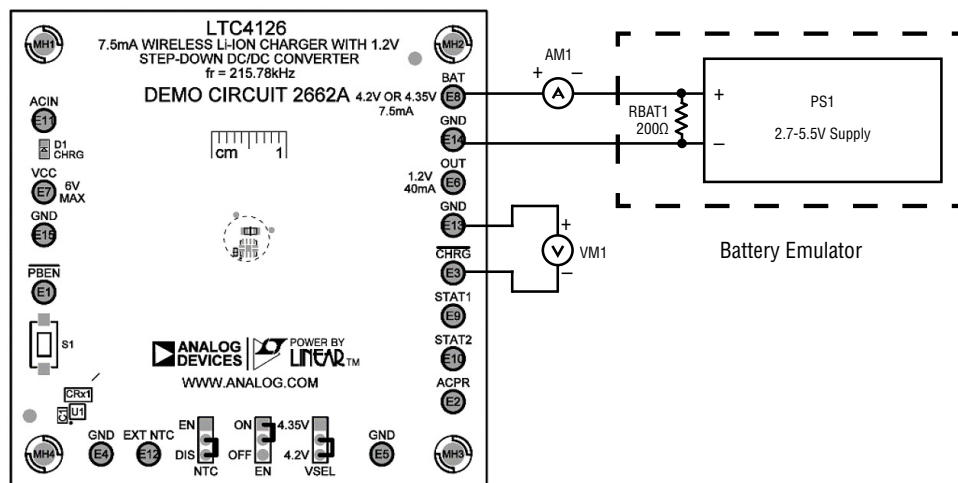
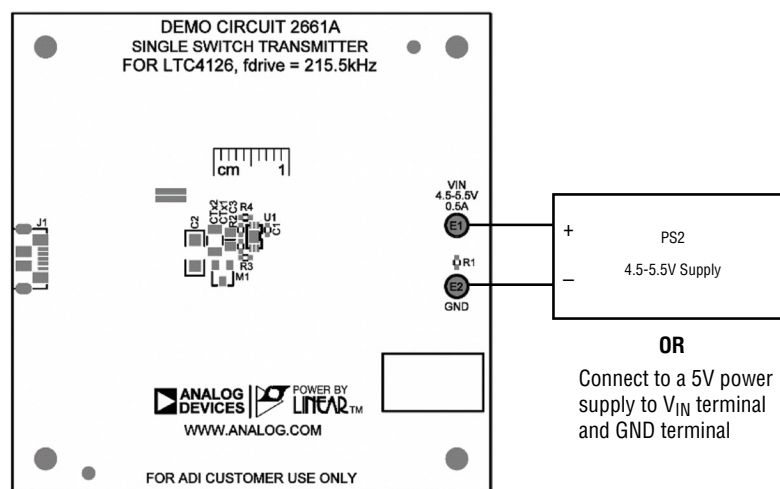

Figure 5. DC2663A Top
Figure 6. DC2661A Top
Refer to Figure 5 and Figure 6 for the proper measurement equipment setup, DC2662A mounting on DC2661A, and follow the procedure below:
1. Plug a Micro-USB cable into DC2661A. J1, with the other end of the cable connected to a computer USB port or a 5V wall wart. The demo may also be powered by applying 4.5-5.5V between  $V_{IN}$  terminal DC2661A.E1 and GND terminal DC2661A.E2 (Figure 6).
2. Connect a voltage source PS1 and a 200 Ohm resistor RBAT1 between the BAT and GND terminals DC2662A.E8 and DC2662A.E14, respectively (Figure 5). PS1 and RBAT1 make up the battery emulator. Typical power supplies cannot sink current. By adding a resistor across the power supply inputs that draws more current than the maximum battery charging current, the power supply only sources current even when the battery charge current is at its maximum value.
The WPT for the LTC4126EDC is implemented as resonant power transfer, with the LTC4126EDC rectifying the resonant tank voltage to generate  $V_{CC}$ . The LTC4126EDC keeps the voltage at  $V_{CC}$  always within 5-5.5V when regulating received power from the WPT transmitter. When the  $V_{CC}$  voltage reaches a maximum of 5.5V, an input shunt is activated that dissipates the received power. When the voltage at  $V_{CC}$  drops to 5 Volts, the shunt is deactivated, and the power is received and rectified through ACIN again until  $V_{CC}$  rises to 5.5V (see Figure 5).